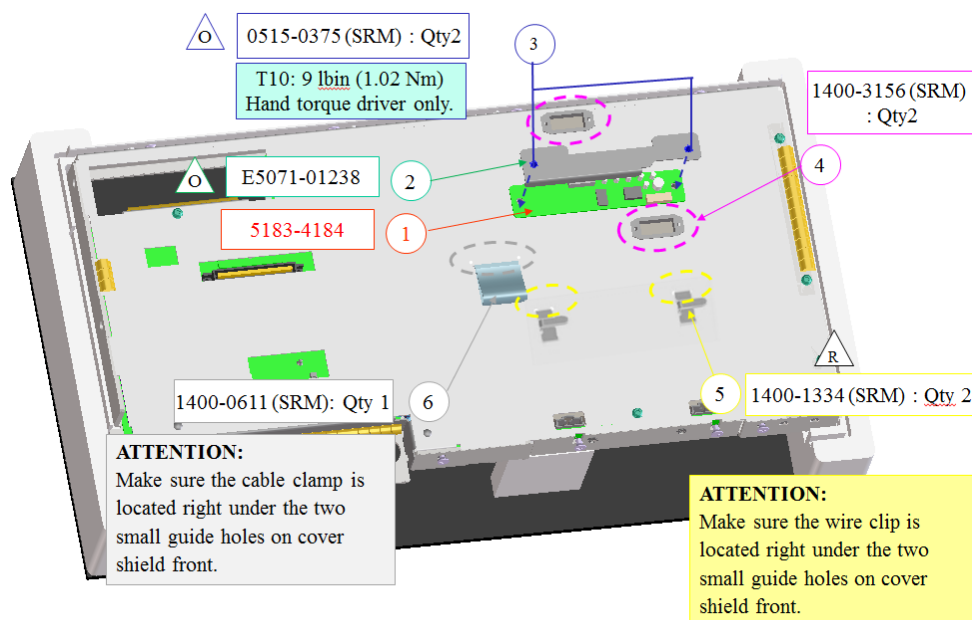

Figure 2-10
9. On Front Panel assembly shield (back cover), install the touch panel controller and the required cable clamps and gasket. Refer to figure 2-10, 2-11 for details.